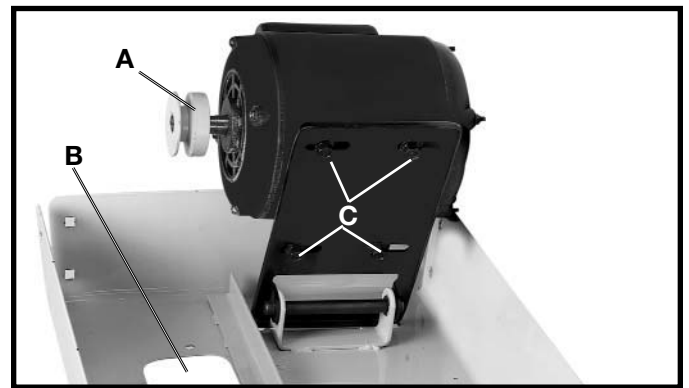

Fig. 12
5. Align the four holes on the motor bracket with the four holes (C) Fig. 12, on the motor mounting plate.
**NOTE: MAKE SURE THAT THE MOTOR PULLEY (A) FIG. 12, IS MOUNTED ON THE SIDE WITH THE BELT OPENING HOLE (B).**
4. Loosen the four bolts (C) Fig. 12, that hold the motor bracket to the motor mounting plate, and adjust the position of the motor until the motor pulley and saw pulley are aligned.